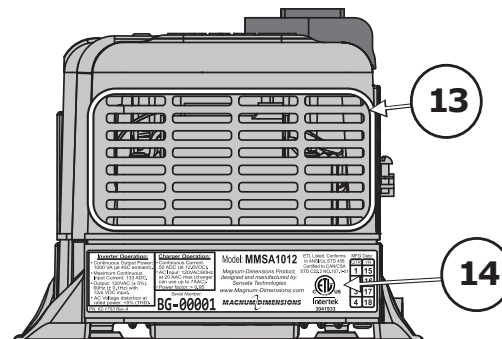
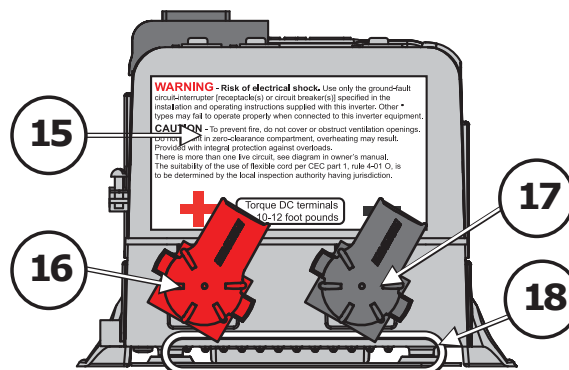
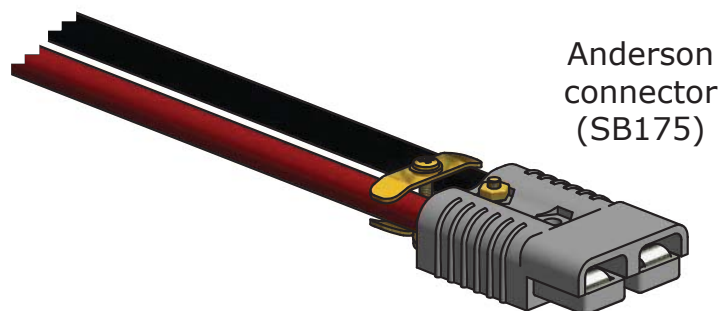

Figure 1-5, Back Side Features
Figure 1-6, Front Side Features
Figure 1-7, MMSA1012 Inverter’s Anderson Connector
- 16 **Positive DC Terminal** – the inverter’s connection to the positive terminal on the battery bank. The MMSA1012 comes with one end of a red #2 AWG DC cable already connected to the inverter’s positive terminal (Figure 1-6), and the other end with an Anderson connector (SB175) attached (Figure 1-7).
- 17 **Negative DC Terminal** – the inverter’s connection to the negative terminal on the battery bank. The MMSA1012 comes with one end of a black #2 AWG DC cable already connected to the inverter’s negative terminal (Figure 1-6), and the other end with an Anderson connector (SB175) attached (Figure 1-7).
Ventilated – In order for the inverter to provide full output power and avoid over-temperature fault conditions, do not cover or block the inverter’s ventilation openings and ensure there is enough space to allow heated air inside the inverter to escape. Provide as much clearance around the inverter’s intake and exhaust ventilation openings as possible (Figure 1-5, Item 13 and Figure 1-6, Item 18). If installed in an enclosure, a fresh air intake opening is recommended to allow cool air from the outside to flow into the inverter and heated air to exit away from the inverter and the enclosure.